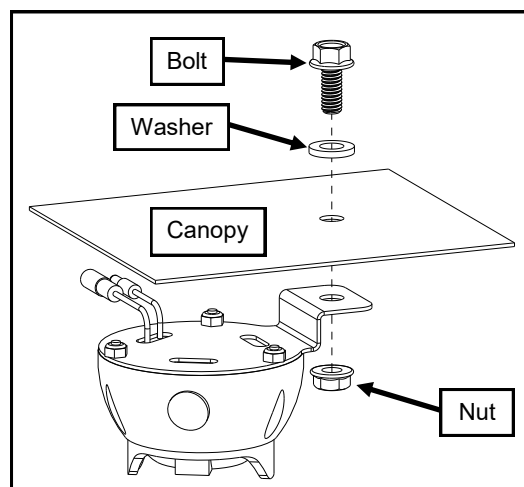

Fig. 19
19. Attach the dome light to the canopy with a 5/16-18 x 3/4" long bolt, nylon washer, and nut as shown in fig. 19.